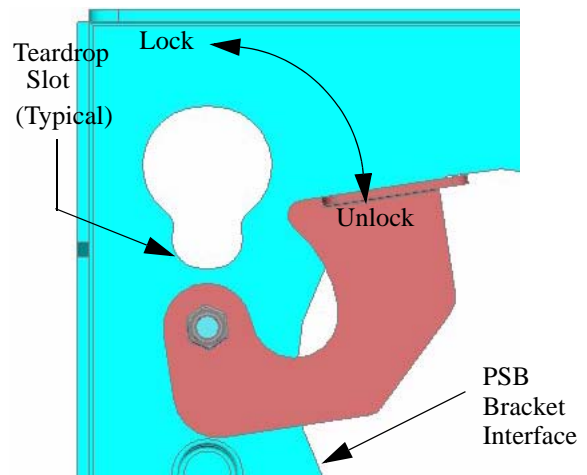

Figure 4. Locking Device
1. Make sure power is not supplied (turned off) to the display and the locking device is in the unlocked (down) position (see Figure 4) before attempting to mount the display.
4. Secure the mounting bracket to the PWR by completely engaging the locking device (see Figure 4).
2. Release the locking device (see Figure 4).